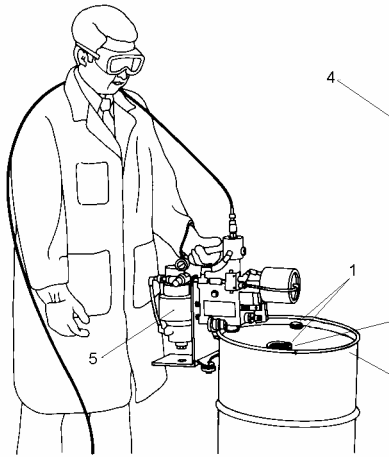

Figure 1
1. See Figure 1. Remove the plugs from the bung fittings with a WIZARD WRENCH (1 and 2).
3. Straighten any bent chime using a WIZARD Dekinker or hammer them into original contour (3).
2. Check the unit for proper cutter height position. The cutter height position is factory set; however, you may need to make some minor adjustments. Please refer to section (4) before continuing.
3. Refer to Figure 1. Turn the adjusting screw